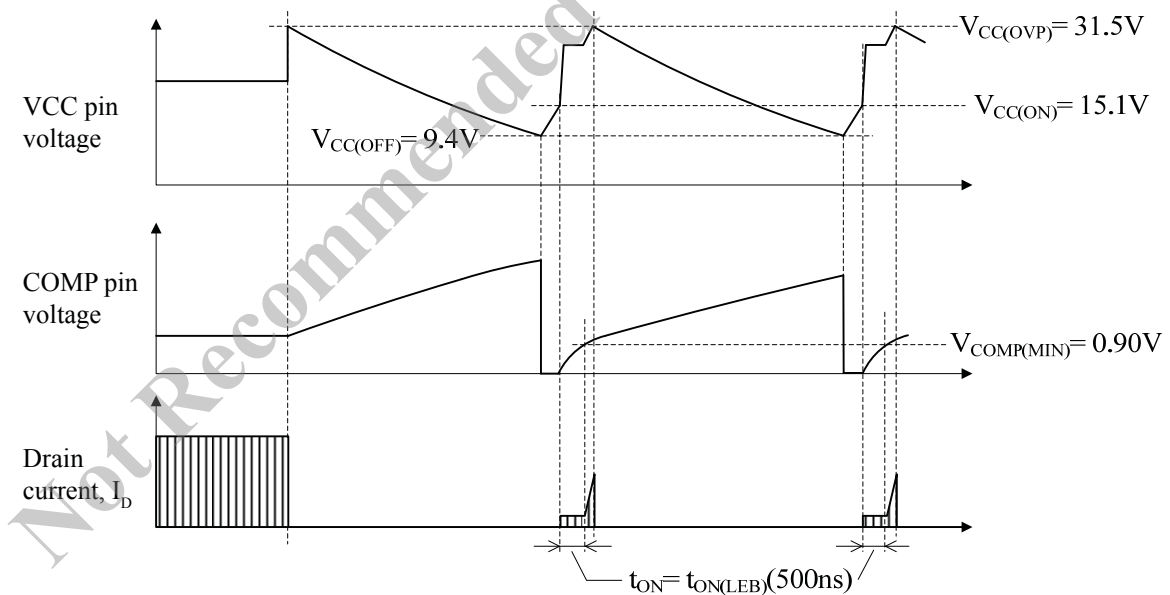

Figure 34. Waveforms when VCC pin OVP is being activated (LC551xD)
- VCC Pin Overvoltage Protection. figure 34 shows the waveforms of the OVP function on the VCC pin. When the VCC pin voltage with reference to the S/GND pin reaches and exceeds $V_{CC(OVP)} = 31.5\text{ V}$, OVP is activated and the IC stops switching operation. During this function, the bias assist function is dis-